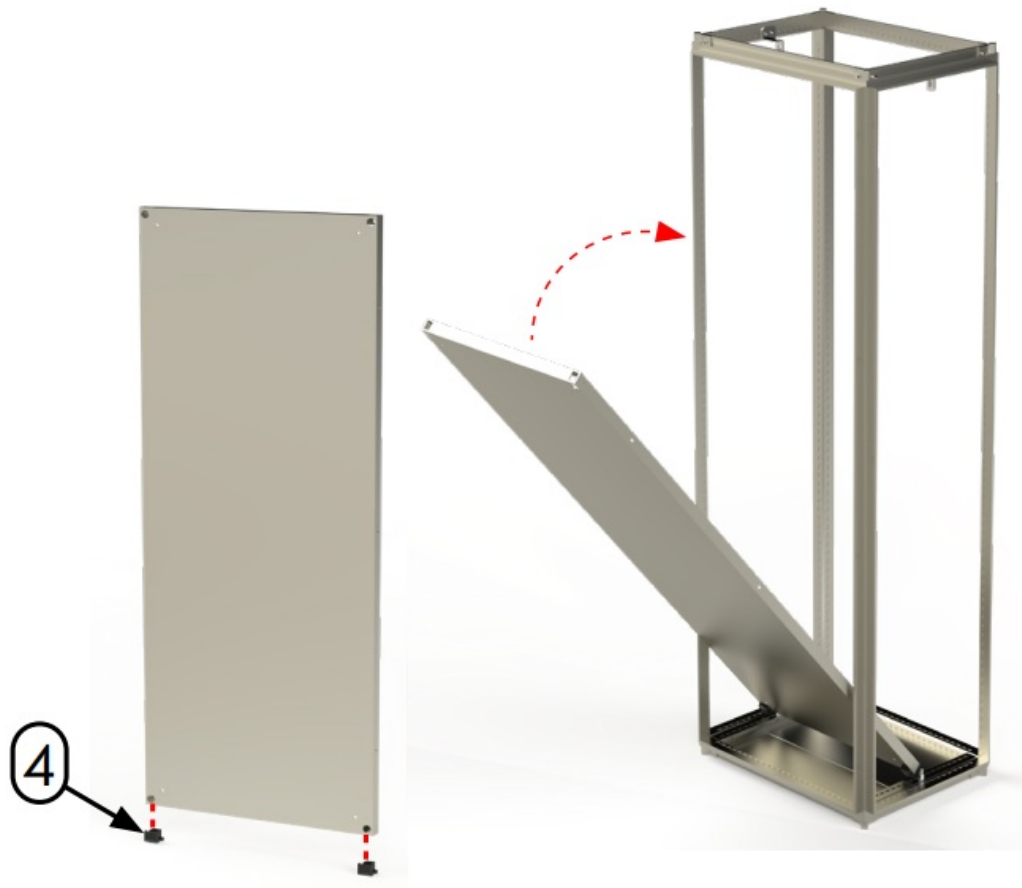

Figure 2
- Important: Ensure the flat side faces the door opening (Figure 2)
- Stand the panel upright so the conic pins insert into the sliders and the subpanel makes contact with the top brackets (Figure 2).